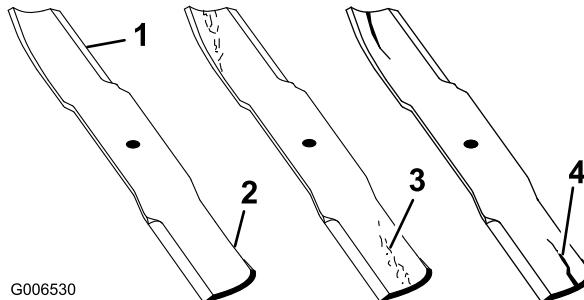

Figure 52
1. Inspect the cutting edges (Figure 52). If the edges are not sharp or have nicks, remove and sharpen the blades. Refer to Sharpening the Blades.
2. Inspect the blades, especially the curved area (Figure 52). If you notice any cracks, wear, or a slot forming in this area (item 3 in Figure 52), immediately install a new blade.